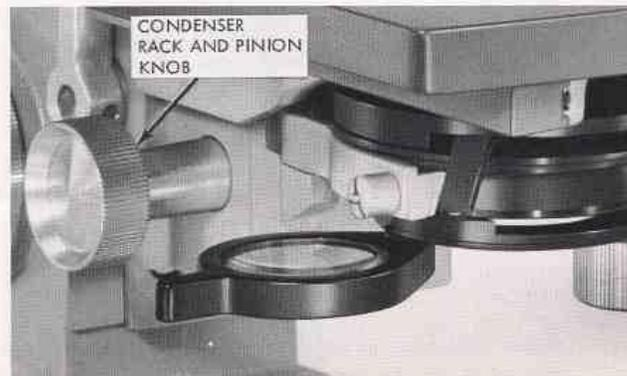

Figure 30. Condenser Rack and Pinion Knob
6. Raise the microscope condenser by means of the condenser rack and pinion knob, figure 30. Raise until the top of the condenser is approximately the thickness of a piece of paper beneath the slide.